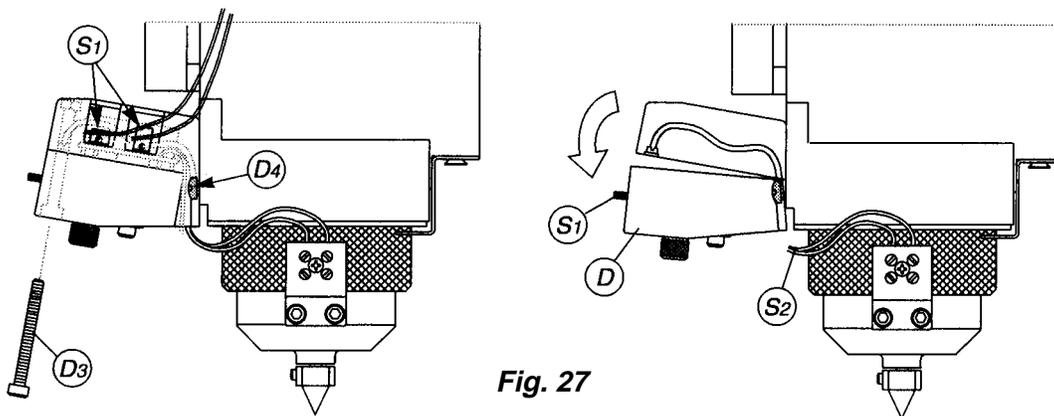

Fig. 27
2. Disconnect the two connectors (S1) (Fig 27) and remove the two front screws (D3).
3. Grasp the unit (D) and pivot it slightly downward, then remove.